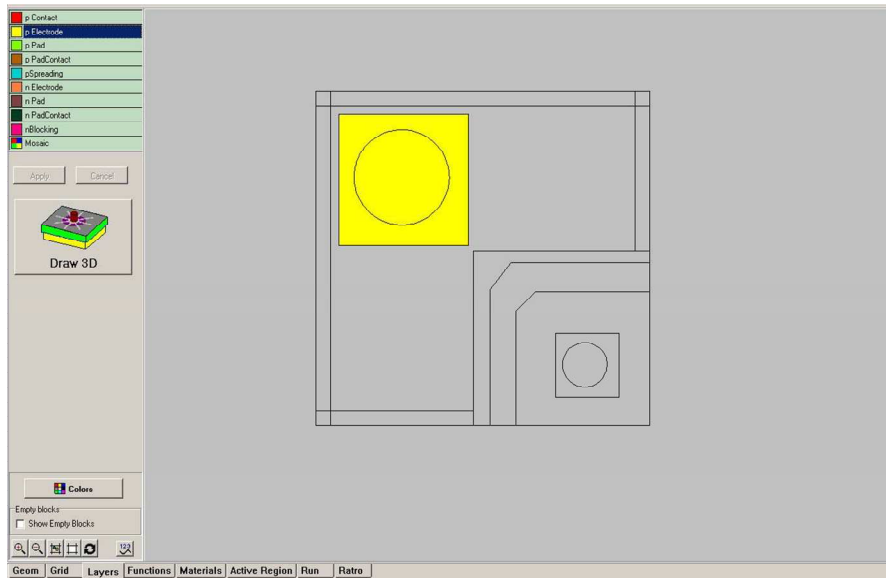

Fig. 21
***p-electrode.*** Area of the metal p-electrode (see Fig. 21). This layer should lie inside the p-semiconductor.